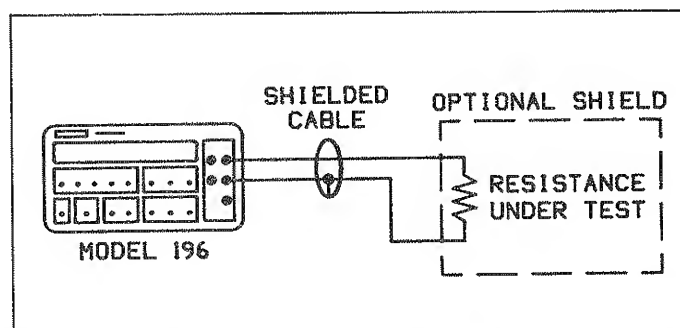
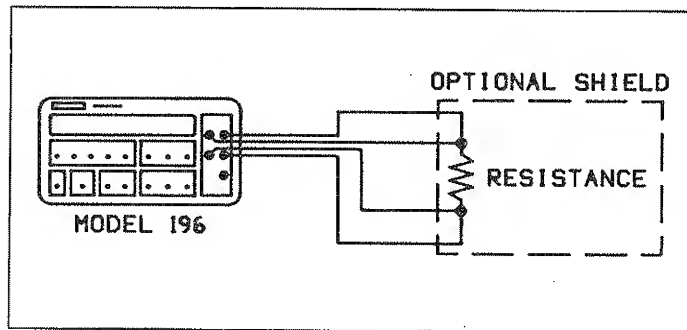

Figure 2-4. Two-Terminal Resistance Measurements
Figure 2-5. Four-Terminal Resistance Measurements
5. For 2-terminal measurements connect the resistance to the instrument as shown in Figure 2-4. For 4-terminal measurements connect the resistance to the instrument as shown in Figure 2-5.